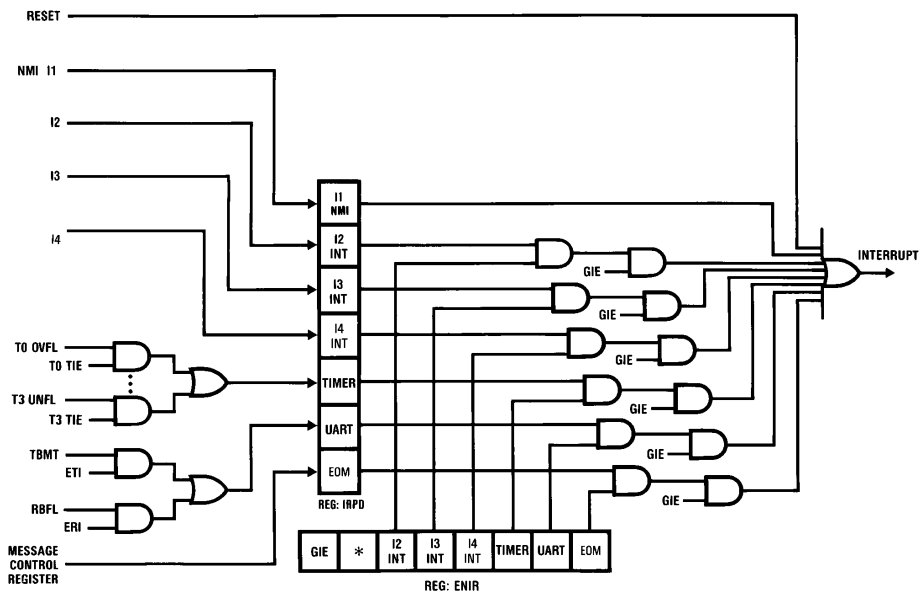

FIGURE 10. Interrupt Enable Logic
The Interrupt, once acknowledged, pushes the program counter (PC) onto the stack thus incrementing the stack pointer (SP) twice. The Global Interrupt Enable (GIE) bit is reset, thus disabling further interrupts. The program counter is loaded with the contents of the memory at the vector address and the processor resumes operation at this point. At the end of the interrupt service routine, the user does a RETI instruction to pop the stack, set the GIE bit and return to the main program. The GIE bit can be set in the interrupt service routine to nest interrupts if desired. *Figure 10* shows the Interrupt Enable Logic.